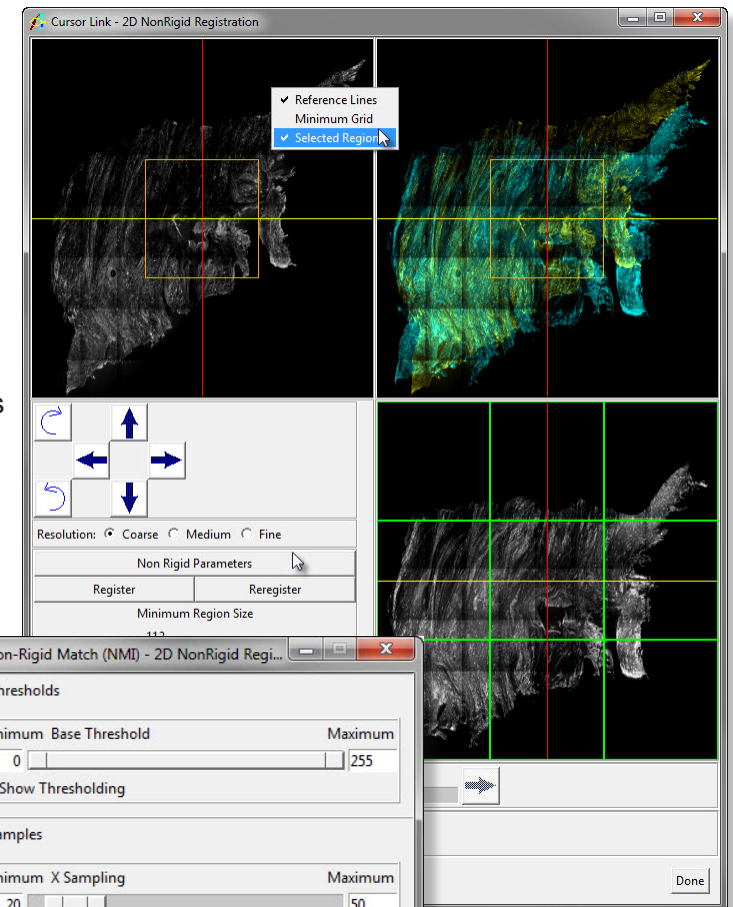

Figure 3
8. Note the orange box in the overlay window shows the current selected region. To switch this on in the Base and Match windows right-click and select the **Selected Region** option (figure 3).